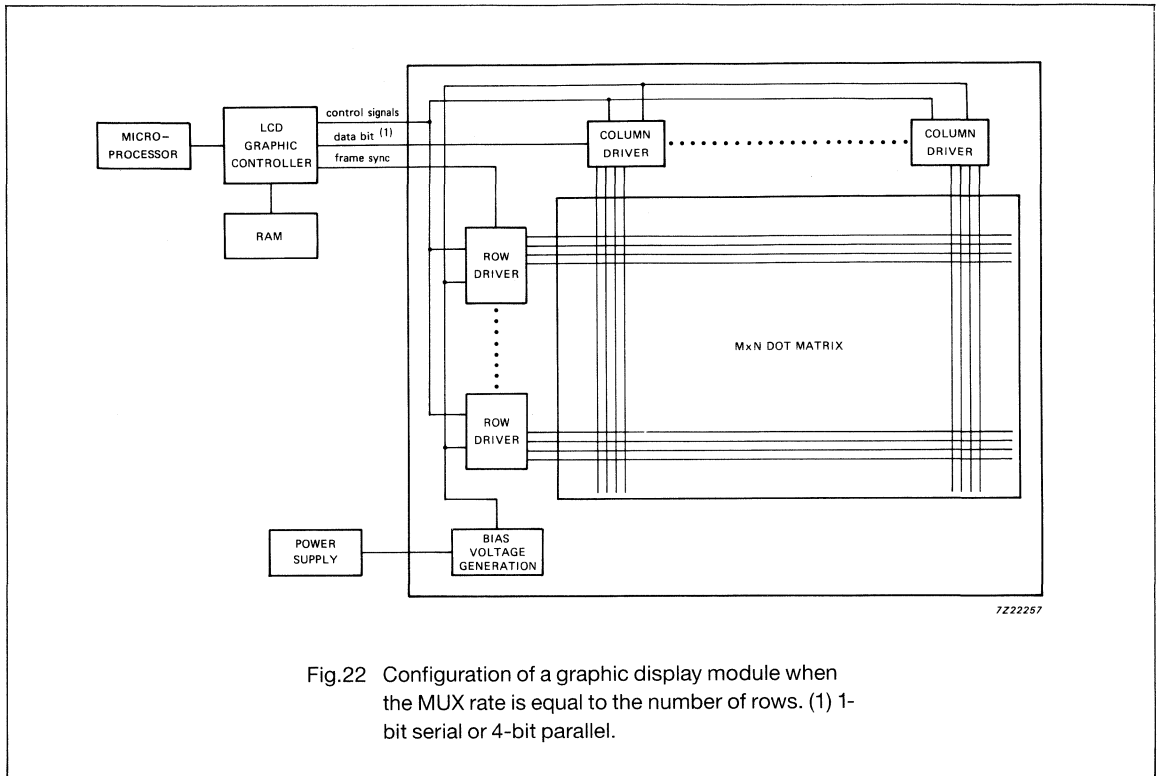

Fig.22 Configuration of a graphic display module when the MUX rate is equal to the number of rows. (1) 1-bit serial or 4-bit parallel.
a) module with a MUX rate equal to the number of rows (Fig. 22)	1-bit serial: used for displays with a relatively small number of dots; 4-bit parallel: used for displays with a larger number of dots